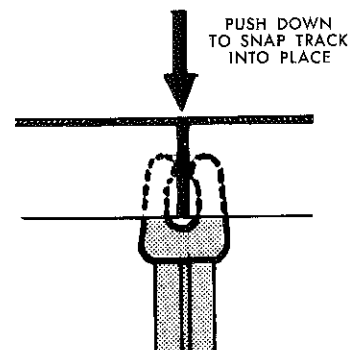

FIGURE 11
□ To assemble the track to the trestle, start with two straight sections. Push the two track sections together so that the clips at the end of one slip into the holes in the other. Slip the two joined sections into the tunnel and fit them over the three "A" stanchions. Press the joint between the two track sections into the slot of the center stanchion until it snaps all the way in. (Fig. 11)